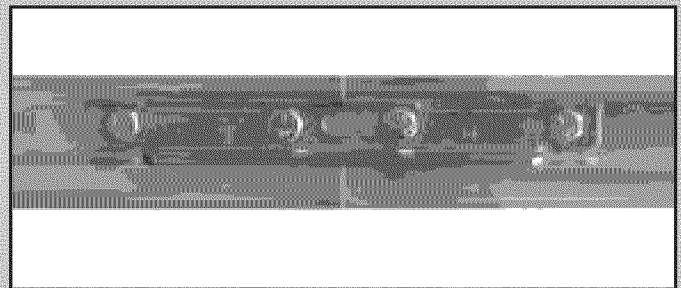
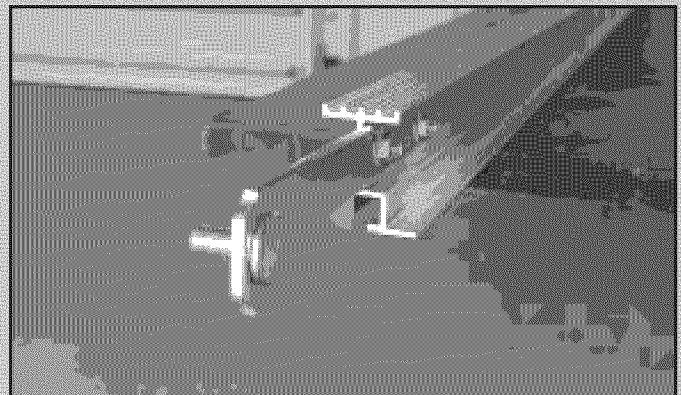

FIG. 1-3 Attach rail clamps.
FIG. 1-4 Attach rail strap.
3. Attach rail clamps to rail (Fig. 1-3).
- Fasten each pair with 4 bolts (9) and nuts (10).
4. Attach rail strap (Fig. 1-4).
- Place 2 bolts (9) through rail strap and rail.
- Securely tighten bolts and nuts (10).